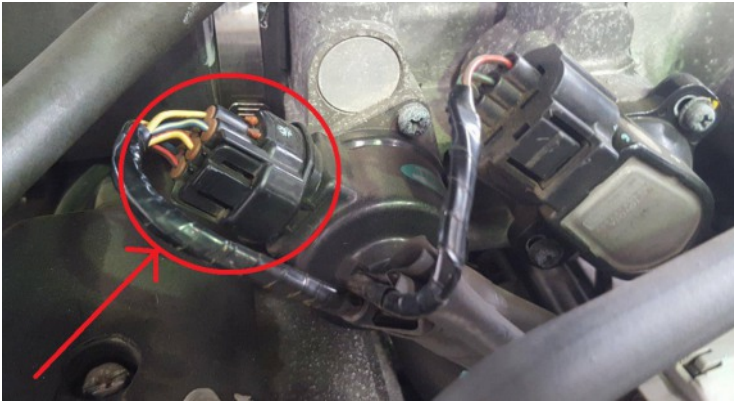

Figure 2 - Location of 6 Wire Stepper Motor
2. WHILST THE ENGINE IS RUNNING, REMOVE THE IDLE CONTROL STEPPER MOTOR 6 PIN CONNECTOR LOCATED ON THE INTAKE MANIFOLD (SEE FIGURE 2 BELOW).